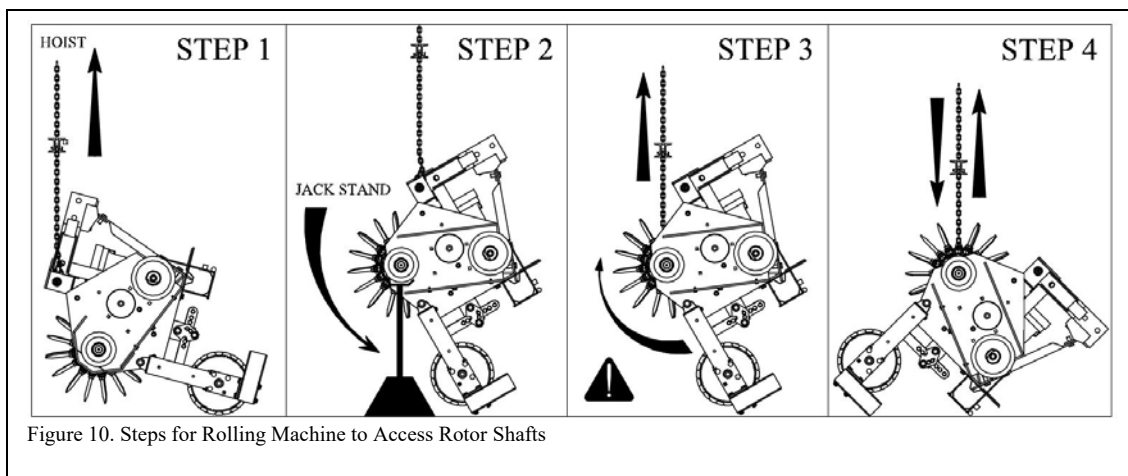

Figure 10. Steps for Rolling Machine to Access Rotor Shafts
2. Lift machine high enough to move chains from lower lift pins to rotor shaft using jack stands to hold the machine during transition (Fig. 10).